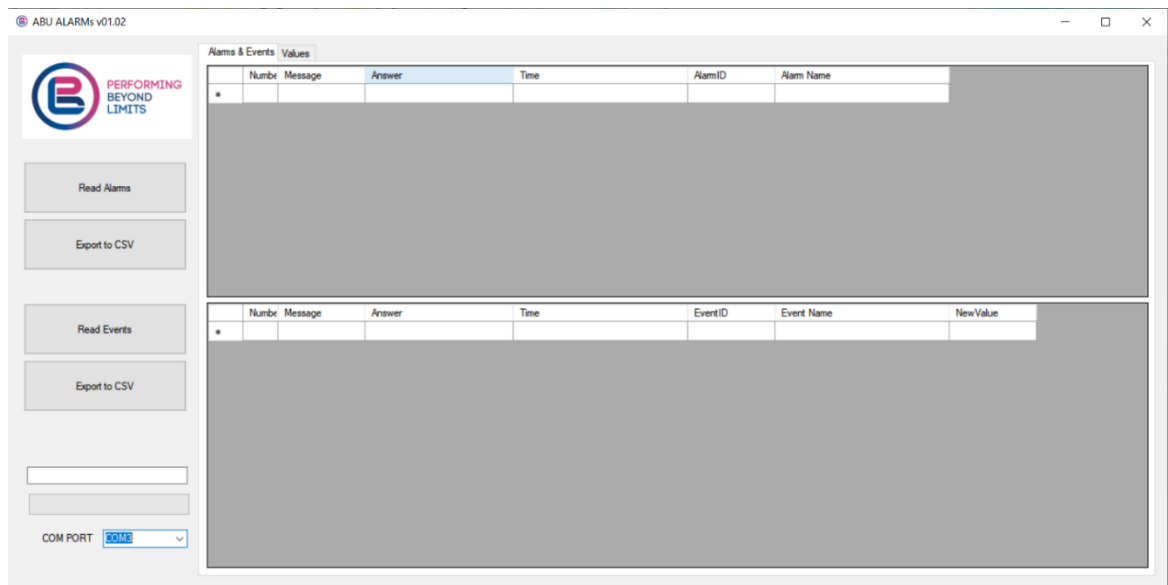

Figure 6.35. Main page of “SerialArduino.exe” software
- The screen shown in Figure 6.35 will appear: